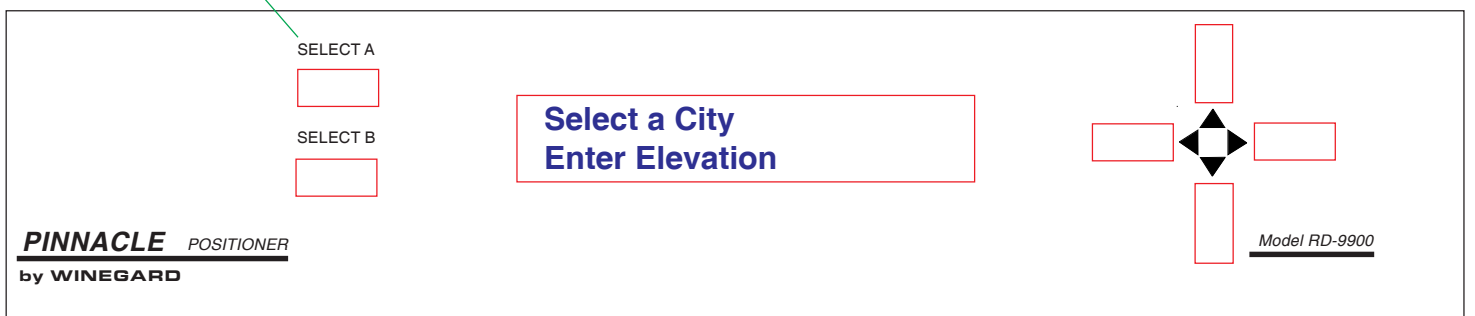

Figure 13
5. Press **[SELECT B]** Enter elevation, Figure 13.